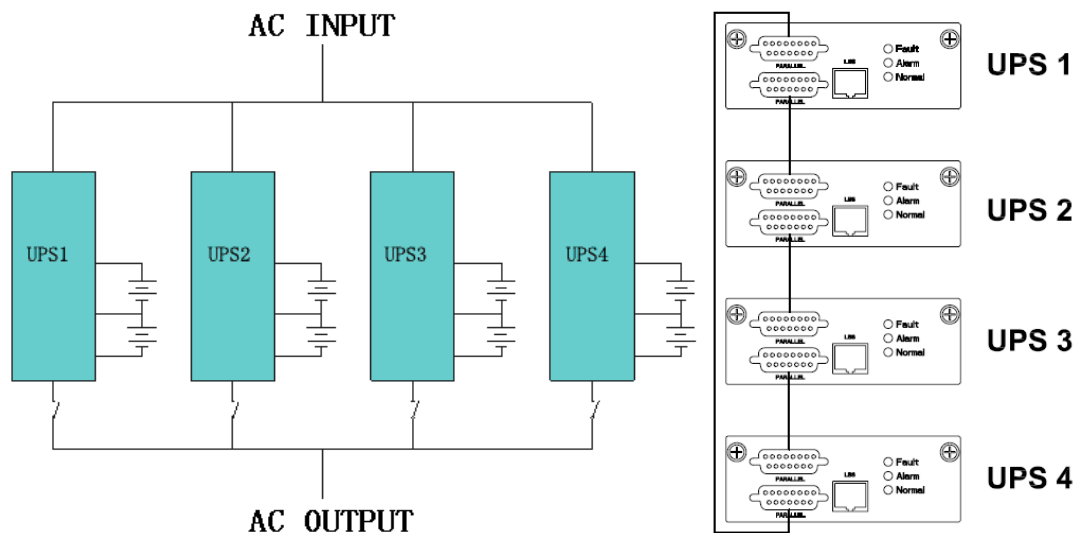

Figure 72: Parallel System Power/Control Connections
Follow the power and control wiring as indicated in Figure 72.
3. Connect the Parallel System Control (see Figure 72):
- a. Connect the shielded and double insulated control cables (one provided with each 3-Phase UPS unit) in a ring configuration between UPS units in the parallel system as shown in Figure 72. The ring configuration ensures high reliability of the control.